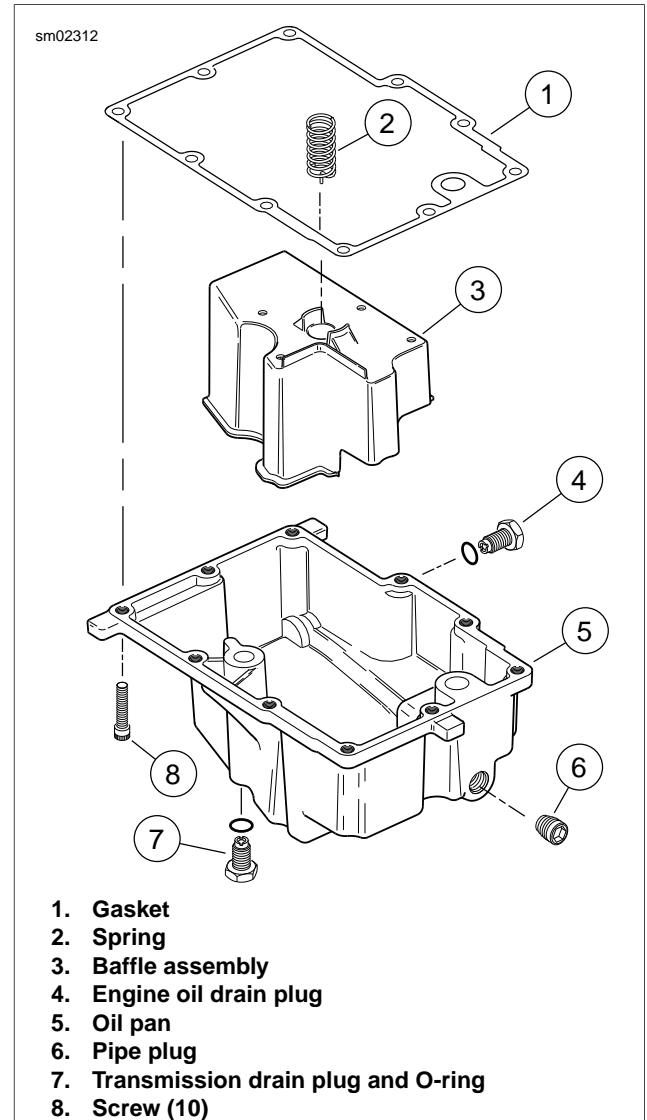

Figure 3-147. Oil Tank: Dyna Glide
2. See Figure 3-147. Drain fluids from oil pan.
- a. Remove engine oil drain plug (4), fill plug/dipstick and oil filter. Drain oil into suitable container. See 1.4 ENGINE OIL AND FILTER.
- b. Remove transmission drain plug (7). Drain transmission fluid into suitable container. See 1.10 TRANSMISSION LUBRICANT.
3. Remove ten screws (8) that secure the oil pan to the transmission housing.
4. Remove oil pan (5) and gasket (1). Discard gasket.
5. Remove baffle assembly (3) and spring (2) from oil pan.
2. See Figure 3-147. Insert baffle assembly (3) and spring (2) in oil pan.
3. Place **new** gasket (1) on oil pan.